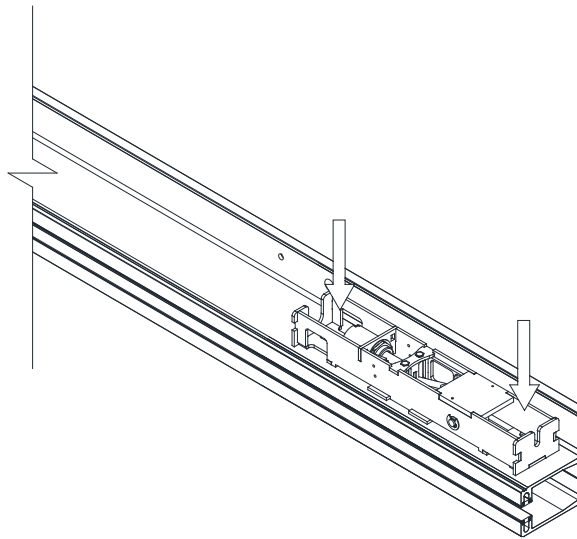

Figure 4
2. There are 2 flat head drive screws with washers that secure the Auto-lock into place, see **Figure 4**. The stainless steel guides will have 2 washers on each screw and the aluminum guides will have a single washer on each screw. **Loosen, but do not remove** these screws in order to adjust the vertical position of the Auto-lock.